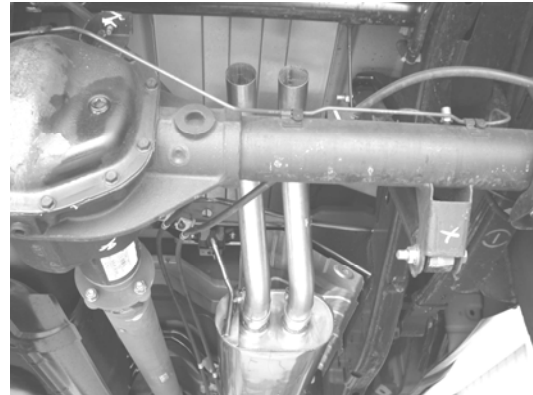

Figure 10
4. Place a clamp over the expanded end of both left and right intermediate pipes and place them into position as shown in figure 10. DO NOT tighten the clamps.